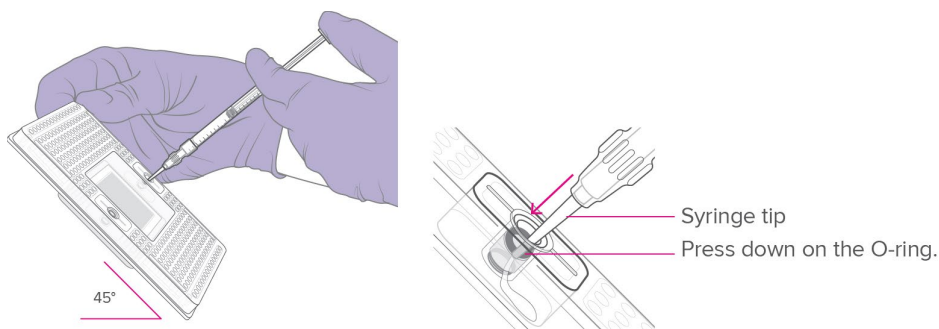

Figure 6. Injecting control line fluid into the accumulators on the 96.16 IFC
- b Use a syringe with the shipping cap in place to actuate both check valves with gentle pressure. Ensure that the poppet can move freely up and down (Figure 6).